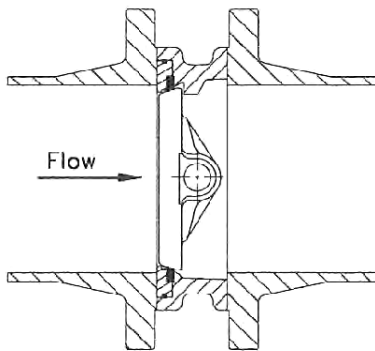
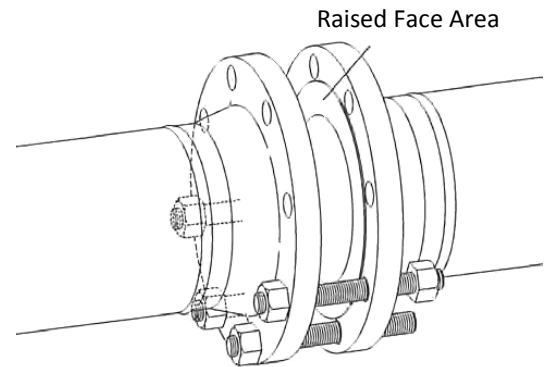
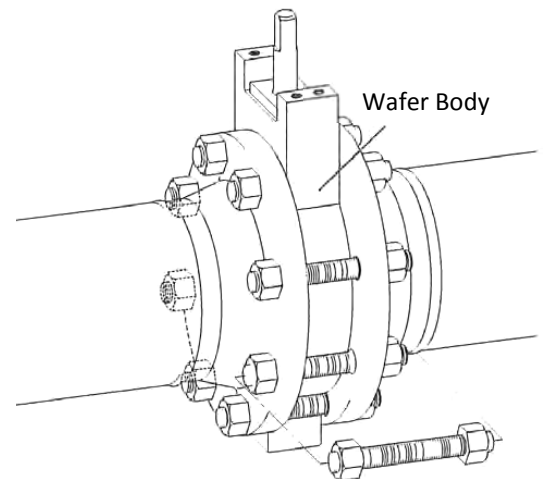

Figure 5 – Preferred Position
Figure 8
Figure 9
Normally the preferred position is seat upstream (Figure 5) where the seat retainer provides protection for the seat against erosion due to line flow. This position also reduces operating torque and provides better throttling characteristics.
2. When installing wafer body valves, install lower flange bolts without tightening (Figure 8). Position valve and flange gaskets between flanges, within the pocket formed by the flange bolts. Install the remaining flange bolts, taking care that the gaskets are centered on the flange faces (Figure 9). **Note: While the WKM DynaCentric MA High Performance Butterfly Valve has bi-directional sealing capabilities, the preferred position is seat upstream (Figure 5). Handle operated valves or fail close valves should be installed seat downstream (stem side facing flow).**
5. Tighten all bolts or capscrews in a crossover or star pattern to insure even sealing (Figures 9 and 10).